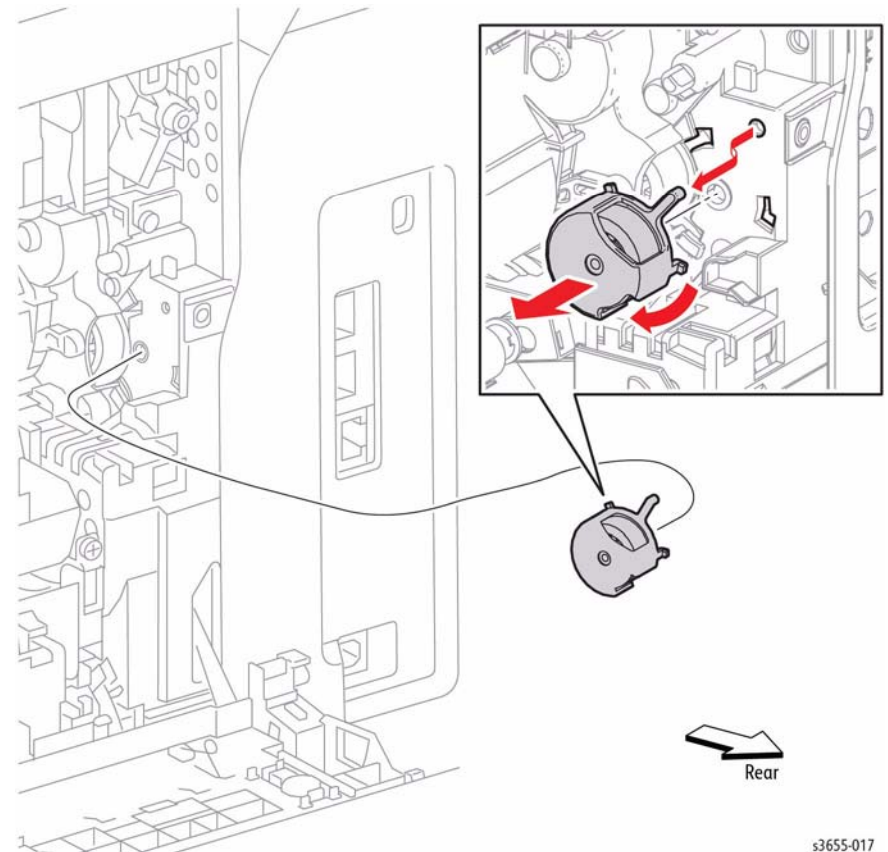

Figure 1 Remove the Duplex Gear and Holder
2. Refer to Figure 1 to locate and rotate the Gear Holder clockwise while pulling the tab to remove the holder and gear.